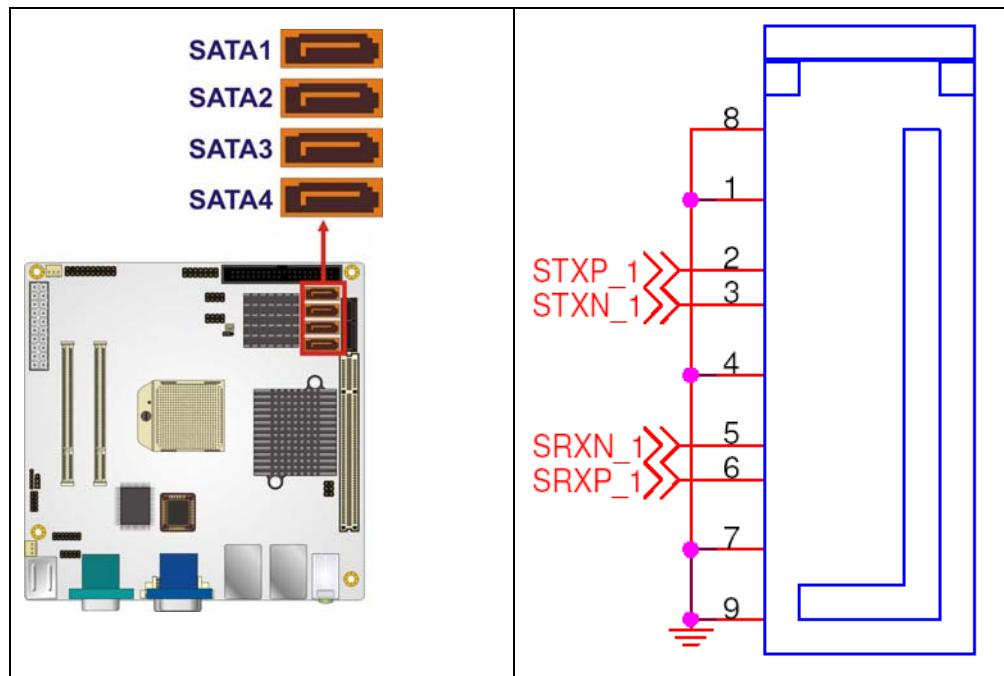

Figure 4-10: SATA Drive Connector Locations
- CN Location:** See Figure 4-10